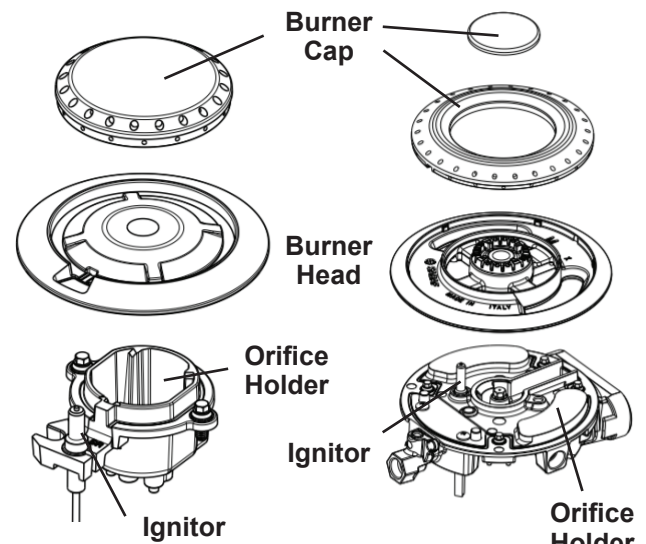

Figura 14: Removeable burner components
1. Remove the burner cap and burner head (see Figura 14). Clean the cap and head with hot soapy water and dry thoroughly.